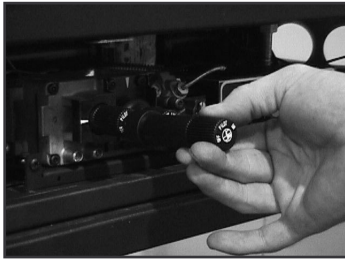

Figure 4BF
7. Place Extension Knobs on the corresponding Knobs on the Valve. See Figure 4BF.